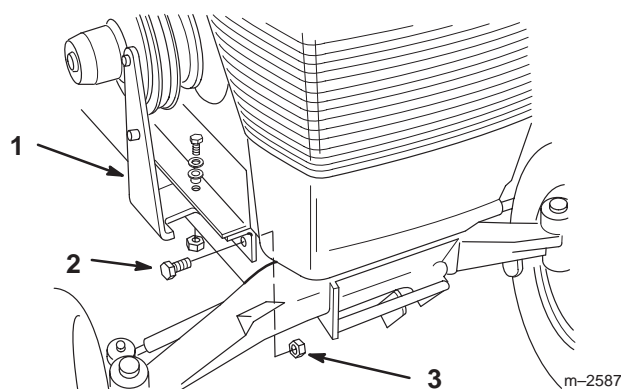

Figure 7
3. Install belt guard bracket to tractor frame with (2) 3/8 x 2" bolts and 3/8" locknuts (Fig. 7).